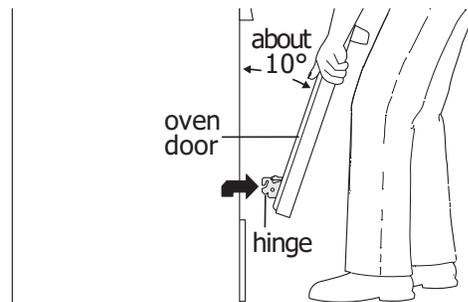
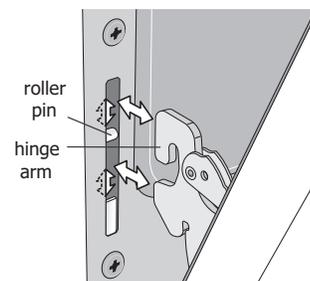

Figure 28: Holding door for removal
Figure 29: Replacement and location of hinge arm and roller pin
3. Firmly grasp both sides of oven door along the door sides. Do not use the oven door handle (See Figure 28).
4. Close the door to approximately 10 degrees from the door frame (See Figure 28).
5. Lift the oven door hinge arms over the roller pins located on each side of the oven frame (See Figure 29).
1. Firmly grasp both sides of oven door along the door sides. Do not use the oven door handle (See Figure 28).
2. Holding the oven door at the same angle as the removal position, seat the hook of the hinge arm over the roller pins located on each side of the oven door frame (See Figure 28 and Figure 29). The hook of the hinge arms must be fully seated onto the roller pins.